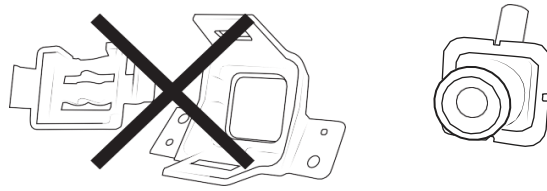

Figure 6.
7. Remove the camera from the camera housing and save for reinstallation. Camera housing can be discarded (fig. 6)